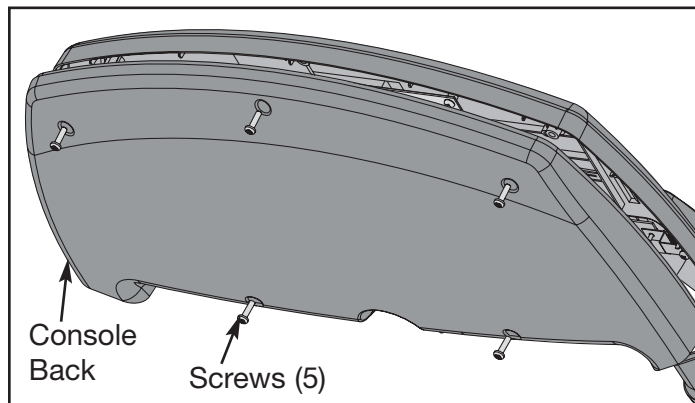

Figure 24
- Using a Phillips head screwdriver, remove the five screws securing the top console back to the console front. See Figure 24.